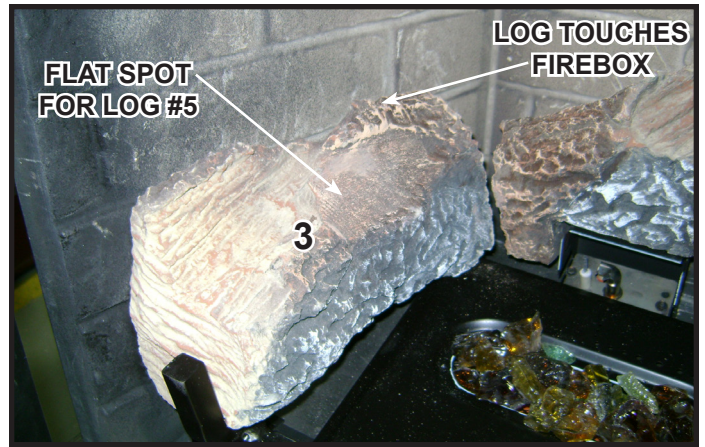
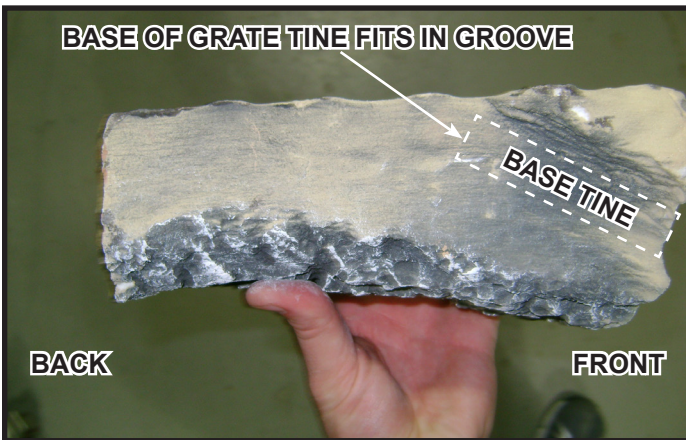
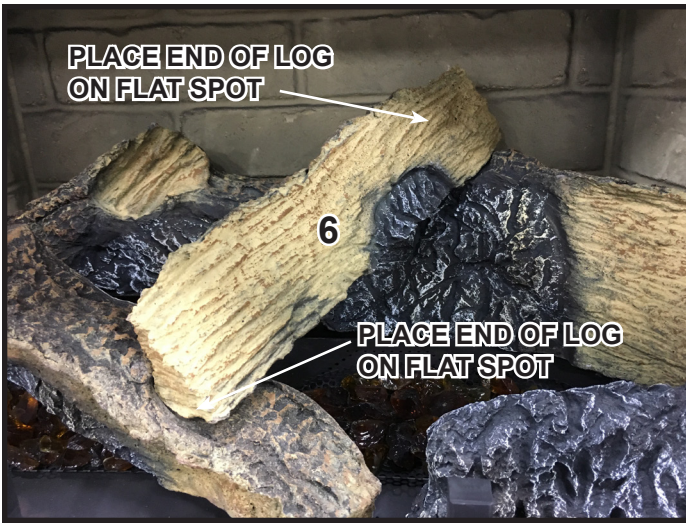

Figure 7. Place Log #3
Figure 8. Log #3 - Bottom View
Figure 12. Place Log #6
**Log #3 (SRV2221-702):** Position Log #3 as shown in Figure 7. See Figure 2 and Figure 8 for additional reference points. Mate the base of the left grate tine with the groove located on the bottom of the log. Pull the log forward until it stops against the vertical portion of the grate tine. Swing the rear of the log counterclockwise until it touches the firebox.
**Log #5 (SRV2221-704):** Position Log #5 as shown in Figure 11. See Figure 2 and Figure 12 for additional references. Rest the left end of Log #5 on the flat spot indicated in Figure 7. Locate right end of log against the grate and to the left of the log pin. Ensure the nose of the log does not cover any burner ports.
**Log #6 (SRV2221-705):** Position Log #6 as shown in Figure 12. See Figures 2, 5 and 11 for additional reference points. Place the front end of log #6 on the flat spot indicated in Figure 11. Place the back end of Log #6 on the flat spot indicated in Figure 5.